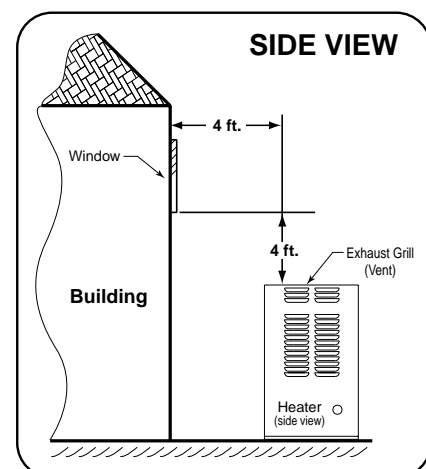

Figure 12.
Overhangs must be such that flue products are not diverted into living spaces. From the point where the flue products leave the heater, that point **MUST be a minimum of four (4) feet below, four (4) feet horizontally from or one (1) foot above any door, window or gravity inlet into the building;** see Figure 12.